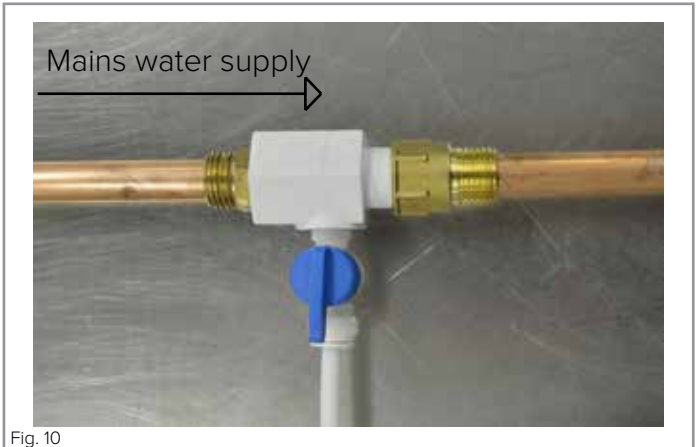

Fig. 10
- Connect the fixings as per Fig. 10.